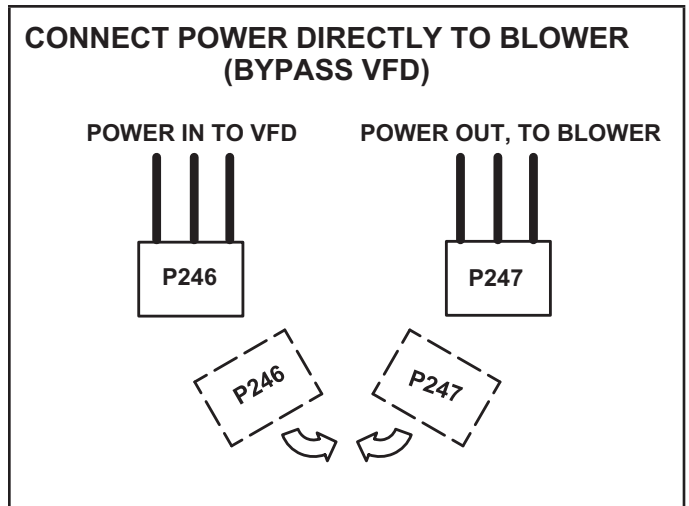

FIGURE 41
- 4 - Connect P246 to P247. See FIGURE 41.